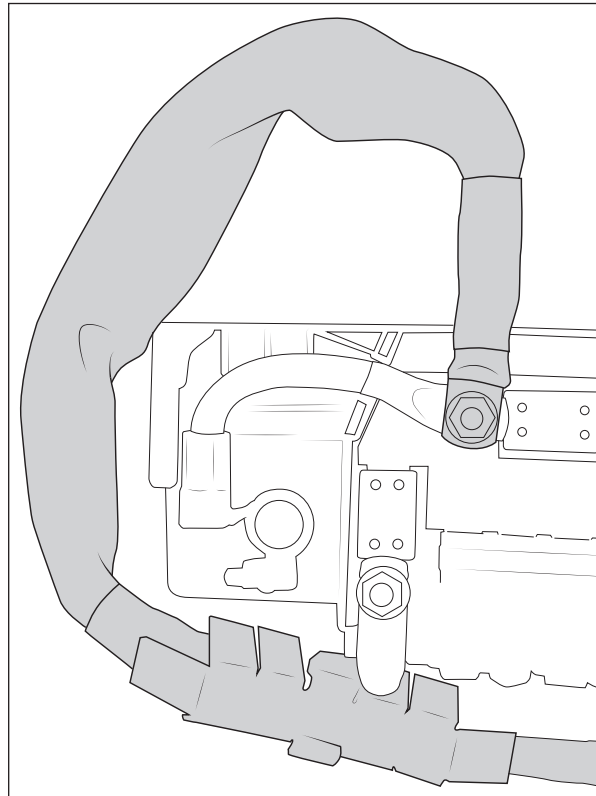

Figure 26
25. Attached positive line in the pre-fuse case (fig. 26).